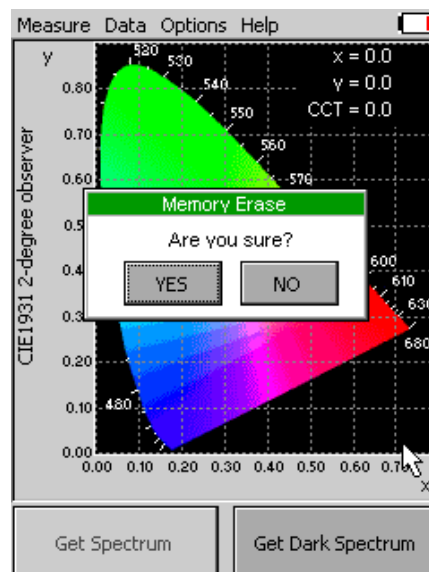

Fig. 10 Memory erase function.
- **Erase** – erase function is used to erase internal data memory (Fig. 10).